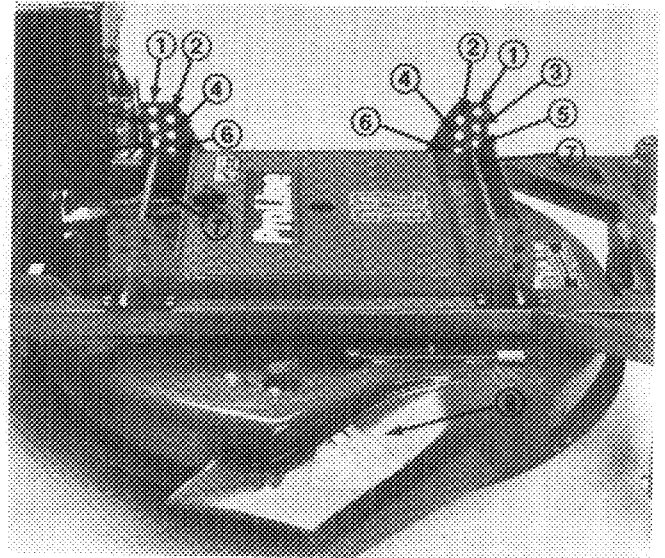

Figure 5
The height-of-cut is adjustable from 1 to 4 inches (25 to 102 mm) in 1/2 inch (13 mm) increments by relocating support rods in different hole locations in brackets at each corner of the cutting unit (Fig. 5).
1. Remove (4) hair pin cotters securing support rods in brackets (Fig. 5).
The grass deflector (Fig. 5) is a safety device that diverts grass and other foreign objects being discharged downwardly. **WE STRONGLY RECOMMEND THAT THE DEFLECTOR BE IN THE LOWEST POSITION WHENEVER THE MACHINE IS USED NEAR BUILDINGS OR WHEN THERE ARE PEOPLE OR ANIMALS IN THE AREA. THE BLADE CAN THROW DEBRIS A CONSIDERABLE DISTANCE WITH SUFFICIENT FORCE TO CAUSE PERSONAL INJURY OR DAMAGE TO PROPERTY. THE ONLY TIME THE DEFLECTOR SHOULD BE IN THE UPPER POSITION IS WHEN THERE IS NO POSSIBILITY OF INJURY OR DAMAGE. NEVER OPERATE CUTTING UNIT WITH DEFLECTOR REMOVED FROM CUTTING UNIT OR MOVED TO MORE OPEN POSITION. NEVER CHANGE DEFLECTOR HEIGHT WHEN THE BLADE IS TURNING.** If the grass deflector is damaged, repair or replace the affected part(s).
1. Raise grass deflector (Fig. 5).
NEVER remove the grass deflector (Fig. 5) from the mower housing. If the discharge cover under the grass deflector is removed in order to side discharge or bag, the grass deflector routes discharged material down toward the turf. If the deflector is ever damaged, replace it. Without the deflector or complete grass catcher assembly mounted in place, discharged material could cause personal injury or blade contact could occur.